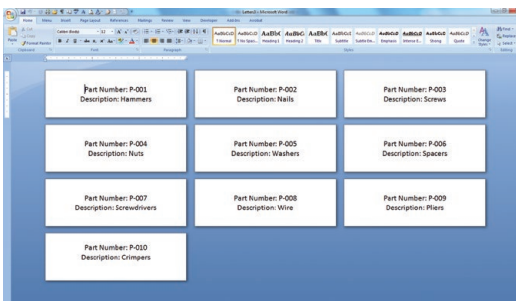

FIGURE 22 Your labels are displayed in sequence prior to printing.
S. A **Checking and Reporting Errors** window now appears. Leave the second option selected and click **OK** (Fig. 21). Your labels are displayed on a single document for your review (Fig. 22).